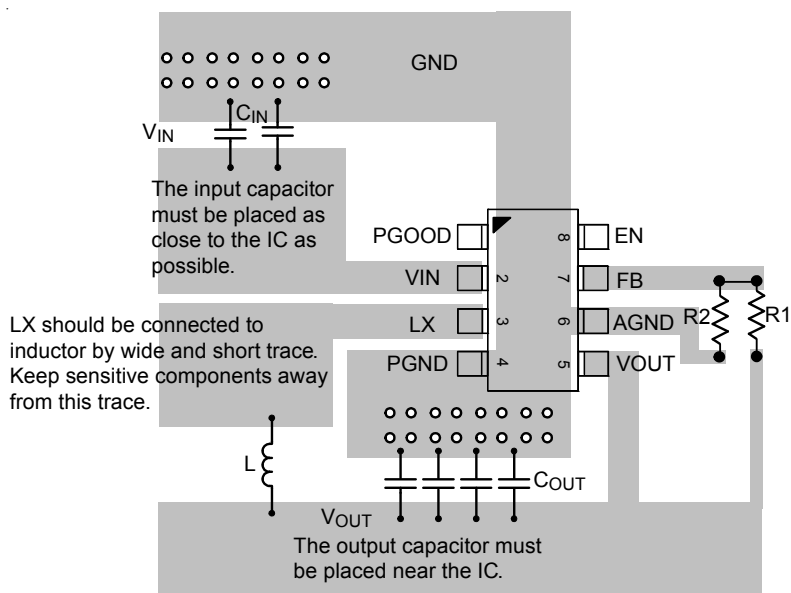

Figure 6. TSOT-23-8 (FC) PCB Layout Guide
- Avoid using vias in the power path connections that have switched currents (from CIN to GND and CIN to VIN ) and the switching node (LX).
An TSOT-23-8 (FC)example of PCB layout guide is shown in Figure 6 for reference.